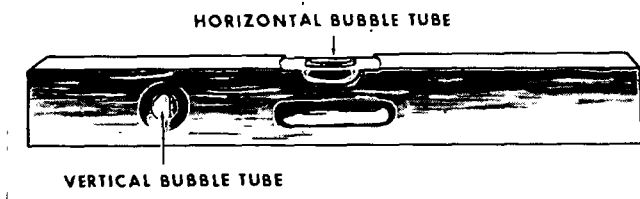

Figure 27. Carpenter's level.
e. Carpenter's Level. The carpenter's level (fig. 27) is a 24-inch wood block with true surface edges. There are two bubble tubes in it. The level is used to determine whether a surface is "level" or "plumb." "Plumb" means true vertical, or at right angles to "level." To check for plumb, set the long side of the carpenter's level